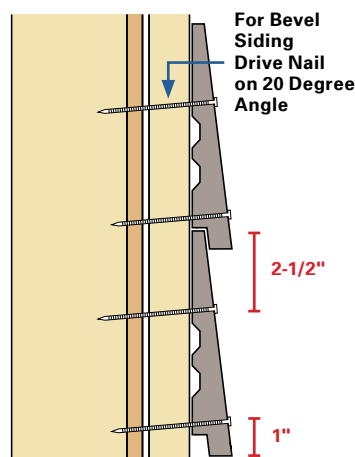

Fig. 16
- For Bevel Siding, nail at 1" from the bottom and 2-1/2" from the top edge of the board on a 20 degree angle, to prevent cupping. *(See Figure 16)*